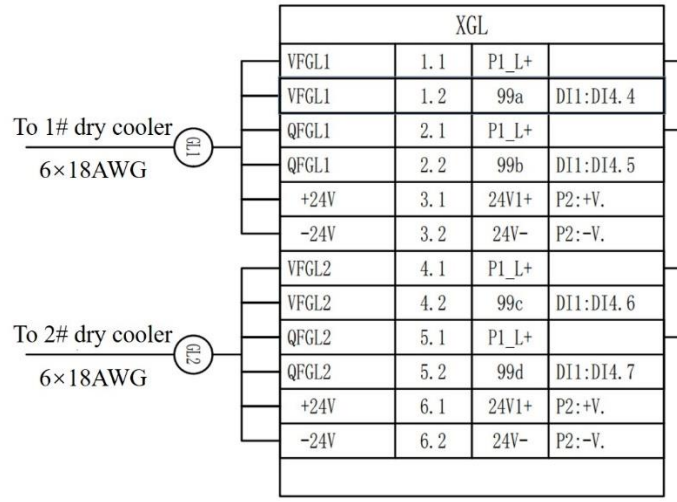

Figure 6.108 Container main control cabinet XGL terminal schematic diagram.
- a. Connect the signal cable of 1# dry cooler project to the terminal XDI-1.1~XDI-3.2 of the dry cooler electric control box according to the labels XDI-1.1, XDI-1.2, XDI-2.1, XDI-2.2, XDI-3.1 and XDI-3.2 to connect. The other end of the signal cable to the terminal XDI-1.1~XDI-3.2 of the dry cooler electric control box according to the labels XGL-1.1, XGL-1.2, XGL-2.1, XGL-2.2, XGL-3.1 and XGL-3.2 in the main control cabinet of the container in the order of terminal row XGL-1.1 ~ XGL-3.2, as shown in Figure 6.108, and according to the requirements of the tightening torque, the cable into the left side of the wire channel to cover the wire channel cover plate;
to the container in the main control cabinet terminal row XGL-4.1 ~ XGL-6.2, as shown in Figure 6.108, and according to the requirements of the tightening torque, the cable into the left side of the trough cover the trough cover;